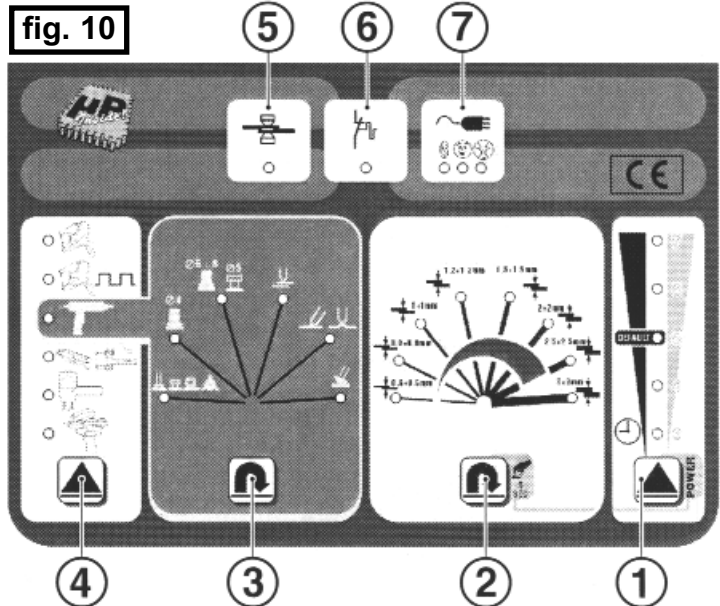

fig. 10
- 9.1. The following describes the functions of the key buttons and the meanings of symbols, and refers to fig. 10.